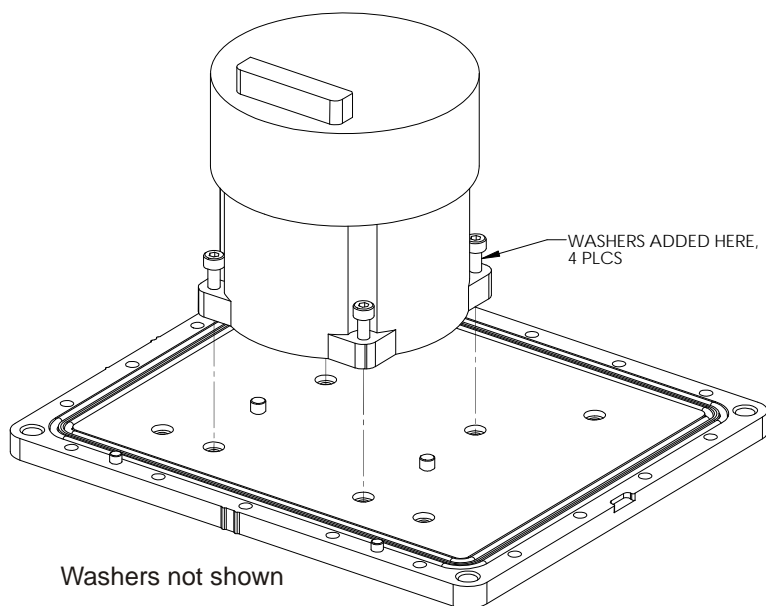

**Figure 62: Remove IMU Bracket/SDLC**
4. Using a 3 mm hex bit, unscrew 4 mm screws and remove the IMU bracket with SDLC, as shown in *Figure 62*.